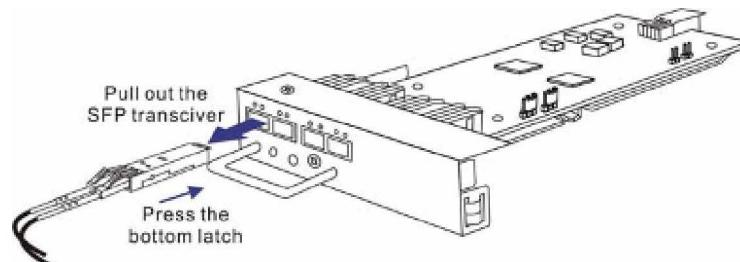

Figure 5-13: Disconnect the SFP transceiver
Step 1. Disconnect the SFP transceiver(s) that are connected to the host connection module. Press the latch on the bottom of the transceiver. The transceiver will be loosened from the SFP cage by the mechanism. Then pull out the transceiver module along with Fibre cable. (See **Figure 5-13**)